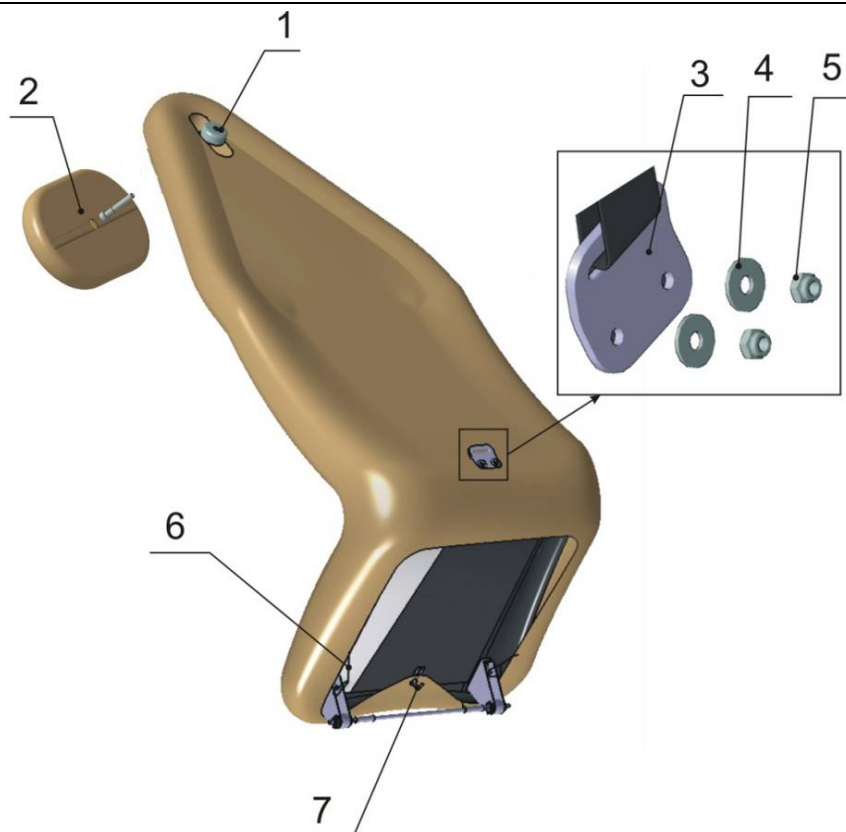

Fig. 25-00-6
B. Seat Upholstery Removal (Fig. 25-00-6)